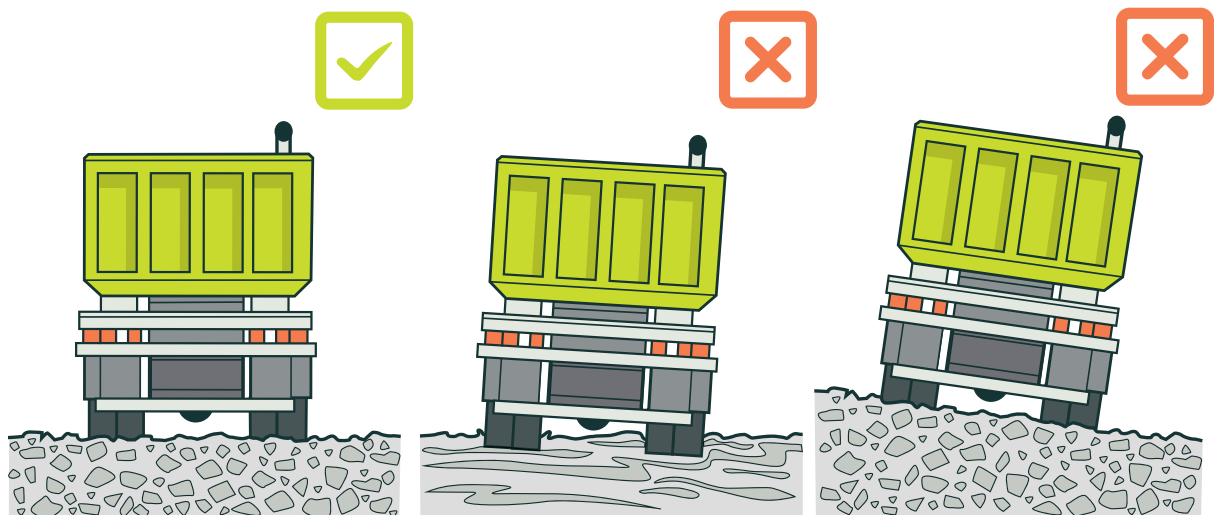

FIGURE 1: Ground should be level, firm, and stable
- making sure that the vehicle is on level, firm, and stable ground to prevent rollover (see Figure 1)